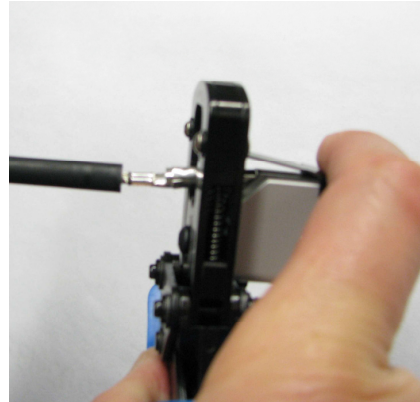

Figure 9
8. Hold the wire in place against stop and squeeze the tool handles together until the ratchet releases. Allow the tool handles to open fully, push the contact holder and remove the crimped contact (see figure 9).